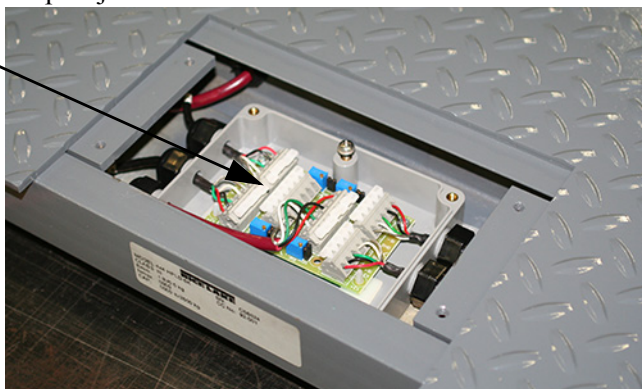

Figure 2-4. Junction Box Opened
5. Connect the wires to the indicator terminal (Figure 2-4) as shown in Table 2-1.